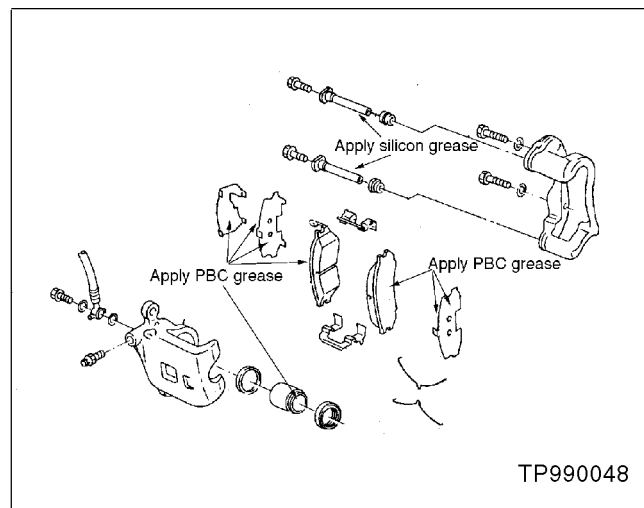

Figure 1.
- a) Apply PBC grease (P/N 99990-00939) to the facing edge of the piston and to all facing surfaces between piston and pad. This will help dampen noise-causing vibrations (see Figure 1).
- b) Lubricate slide pins with silicon grease (P/N 999MP-AB002) and confirm smooth movement of the calipers (see Figure 1).